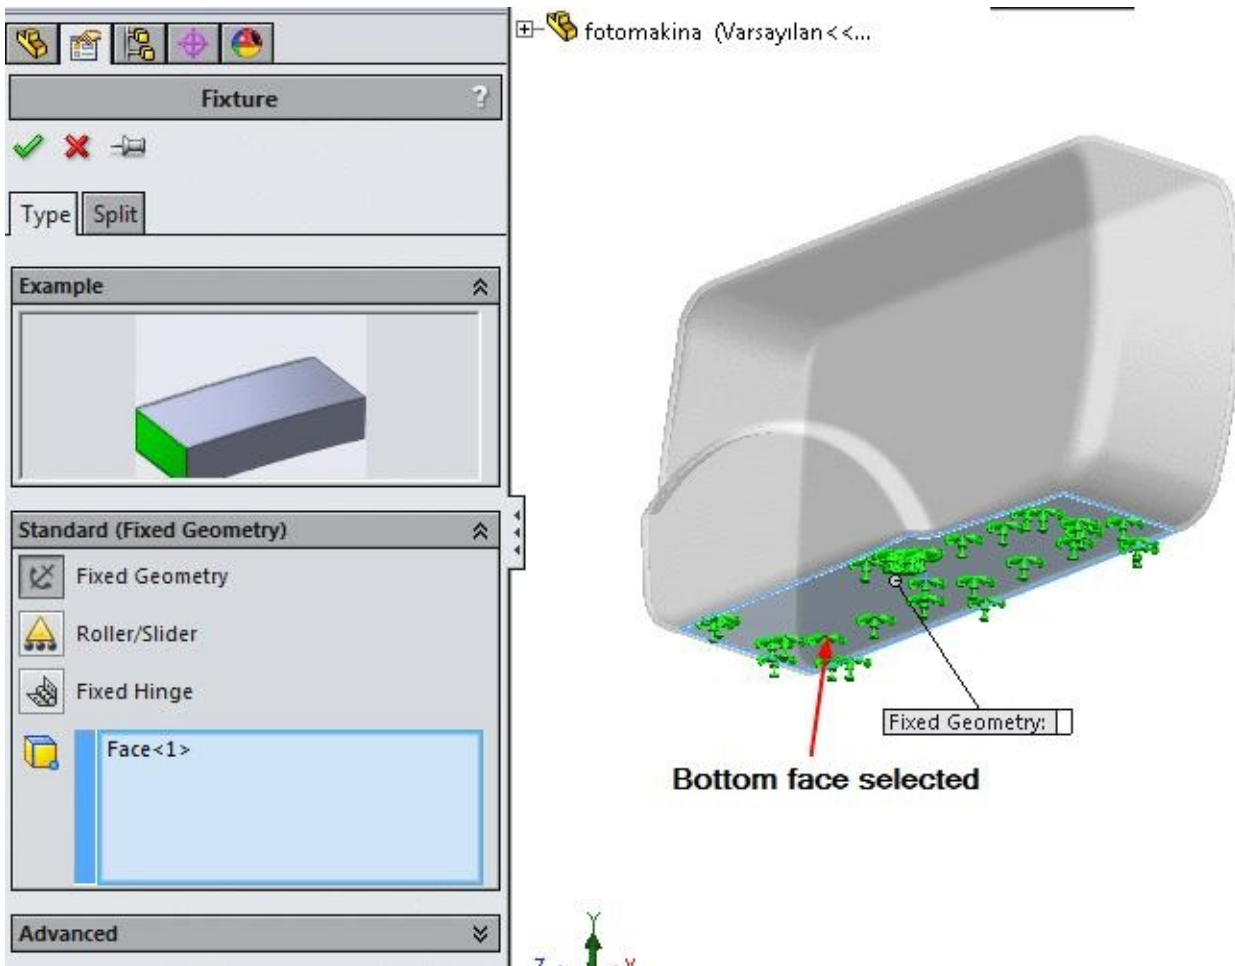

Figure-24. Bottom face of camera body selected
- Select the bottom face of the camera as shown in Figure-24.